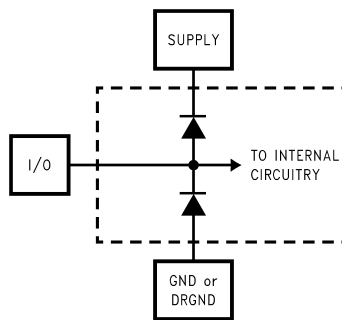

Figure 2.
- The inputs are protected as shown below. Input voltage magnitudes above V_A or below GND will not damage this device, provided current is limited see Note 4 in the Absolute Maximum Ratings table. However, errors in the A/D conversion can occur if the input goes above V_A or below GND by more than 100 mV. As an example, if V_A is +3.3V, the full-scale input voltage must be $\leq +3.4V$ to ensure accurate conversions (see Figure 2).
- (1) The inputs are protected as shown below. Input voltage magnitudes above V_A or below GND will not damage this device, provided current is limited see Note 4 in the Absolute Maximum Ratings table. However, errors in the A/D conversion can occur if the input goes above V_A or below GND by more than 100 mV. As an example, if V_A is +3.3V, the full-scale input voltage must be $\leq +3.4V$ to ensure accurate conversions (see Figure 2).
- (2) To guarantee accuracy, it is required that $|V_A - V_D| \leq 100 mV$ and separate bypass capacitors are used at each power supply pin.
- (3) With the test condition for $V_{REF} = +1.0V$ (2V_{P-P} differential input), the 12-bit LSB is 488 μV .
- (4) Timing specifications are tested at TTL logic levels, $V_{IL} = 0.4V$ for a falling edge and $V_{IH} = 2.4V$ for a rising edge.
- (5) Typical figures are at $T_J = 25^\circ C$, and represent most likely parametric norms. Test limits are guaranteed to AOQL (Average Outgoing Quality Level).